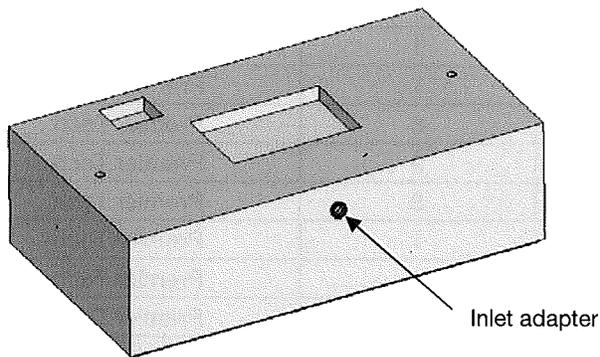

Figure 13
- 2.4 Position the inlet adapter in the tank as described on Figures 13 and 14.